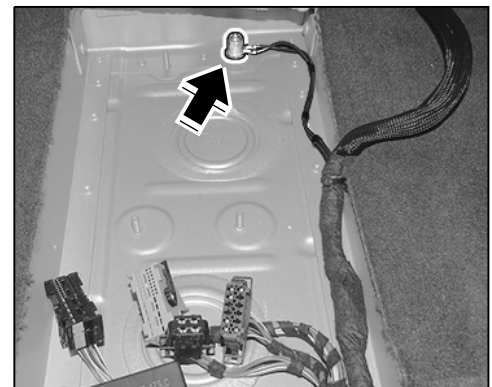

Figure 16
- 2.5 Connect cable ring eyelet (BN ground strap) to ground point MB 6 \Rightarrow *Figure 16 -arrow-*. **Tightening torque 9 Nm (6.5ftlb.)**